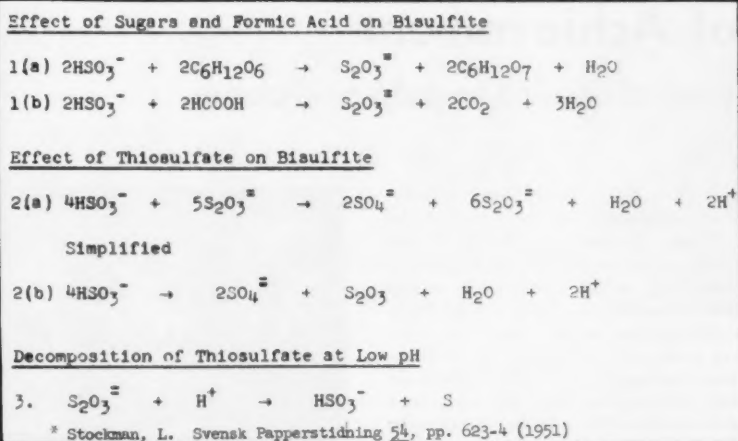

FIGURE 3—REACTIONS INVOLVING DECOMPOSITION OF BISULFITES*
4. As shown in Fig. 3 (reactions 1(a) and 1 (b)) magnesium bisulfite will react with sugars, formic acid, etc., to form thiosulfate. The thiosulfate in turn reacts with bisulfite to form sulfate and more thiosulfate, a chain reaction (reactions 2(a) and 2(b)). Thio-